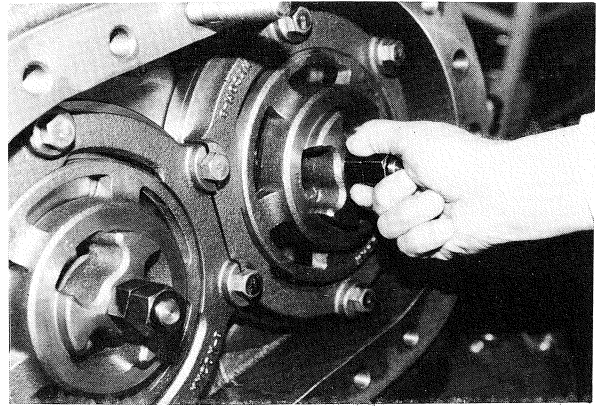

Fig. 34 Removing discharge valve assembly
- a) As the assembly is kept in position by the cage guide only, the valve assemblies can easily be removed by hand (Fig. 34). However, when carbonized oil and slag adhere to them remove carefully taking care not to allow any foreign matter to drop into the cylinder.
- b) Avoid disassembly if the parts appear to be in good condition, i.e., no abrasion of valves, damage to spring or presence of carbonized oil or slag. When disassembly is necessary, do it with care using the tools in the hand tool kit. (ref. 3-16).